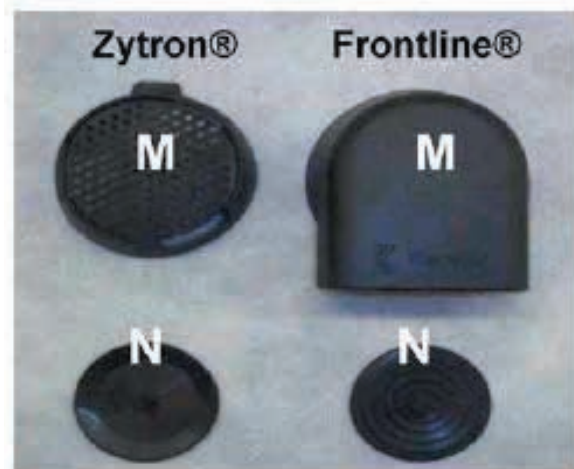

Figure 6: Exhaust Valve Covers and Diaphragms
7. Locate the two exhaust valves on the back of the garment. Remove the exhaust valve covers (M) and the diaphragms (N) from inside the exhaust valves (Figure 6). Visually inspect the diaphragms (N) for signs of deterioration to ensure pliability and proper performance.
17. Replace the diaphragms and the valve covers (Parts M and N) in Figure 6, page 14. For the Zytron® diaphragm pull on the stem to secure the diaphragm to the valve and for the Frontline® diaphragm insert the protrusion located in the center of the valve into the hole of the diaphragm.